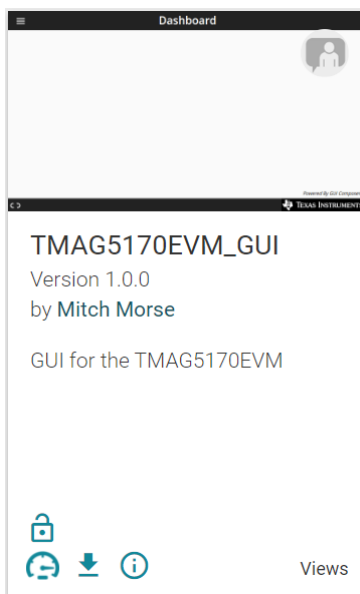

Figure 3-2. GUI Composer Application Window
3. To launch the GUI from the web browser, click the *GUI Composer* application to open the *GUI Composer* window (see Figure 3-2).
4. Optionally, the GUI can be downloaded for offline use by clicking the  icon in the *GUI Composer* window shown in Figure 3-2.